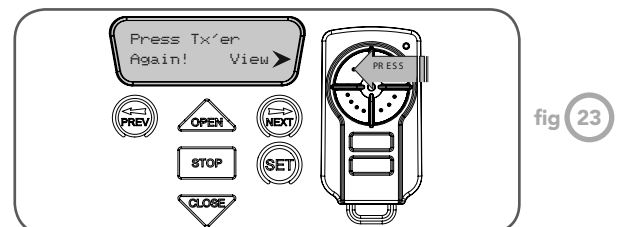

fig 23
3. Press the same transmitter button again as prompted by the display (**Fig. 23**).